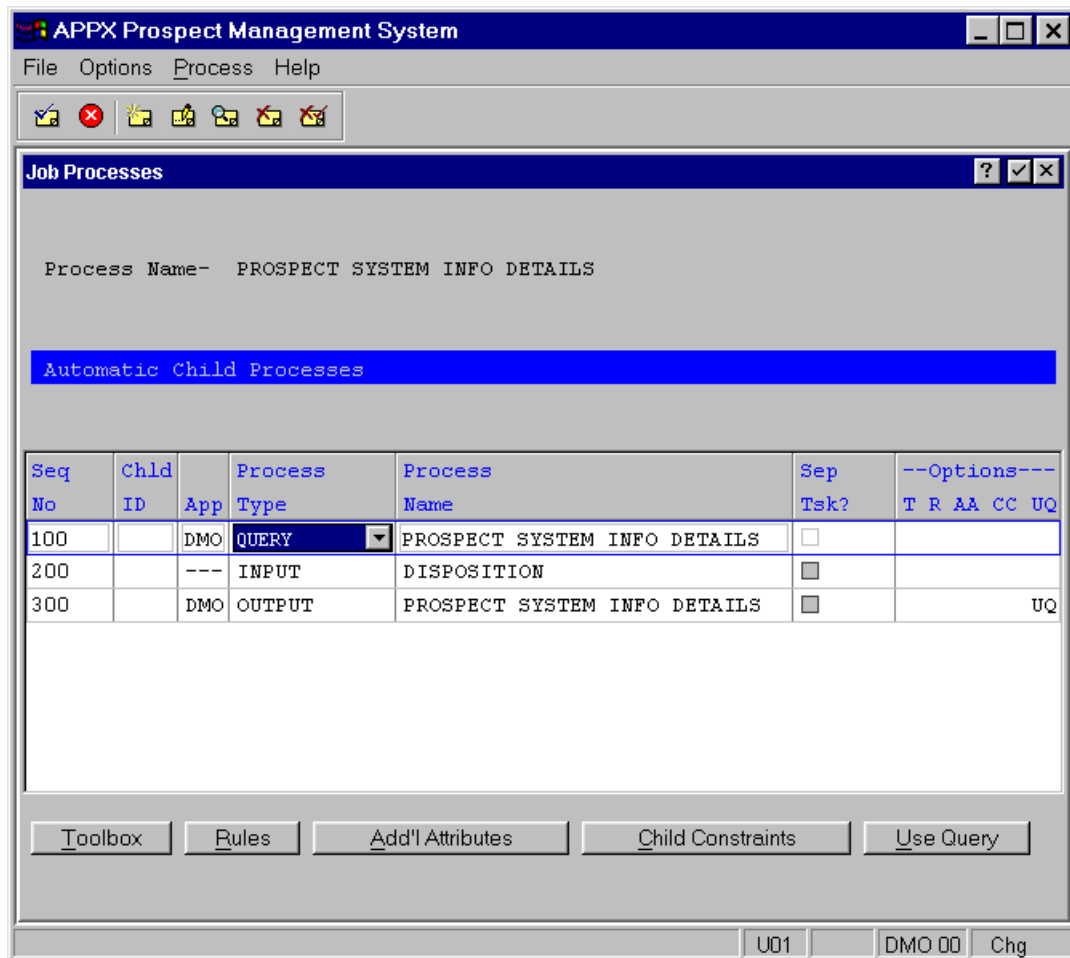

Figure E4.5 – Job Steps for Generated Report Job
- Select the **PROSPECT SYSTEM INFO DETAILS** job and press **ENTER** to display the job steps for that job (*Figure E4.5*). Job steps are also referred to as **Automatic Child Processes** in APPX.